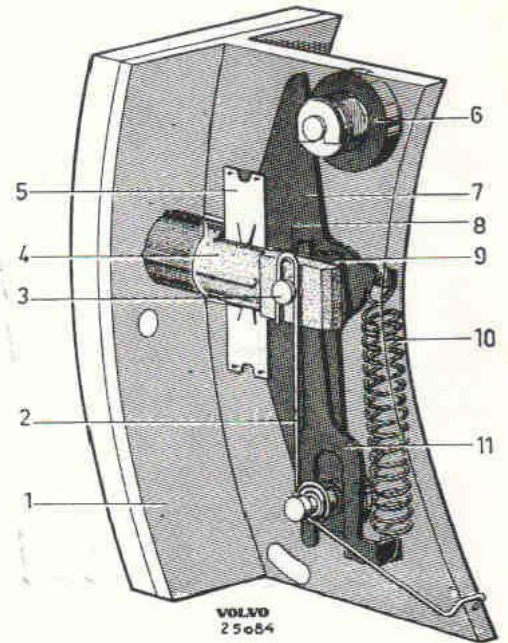

Fig. 8. Self-adjusting device.
The self-adjusting device (Fig. 8) functions as follows: The lower end of the lever (7, Fig. 8) is mounted in the brake shoe (1). The lever is provided with a notched lip (9) and the brake shoe with a guide lip (8).